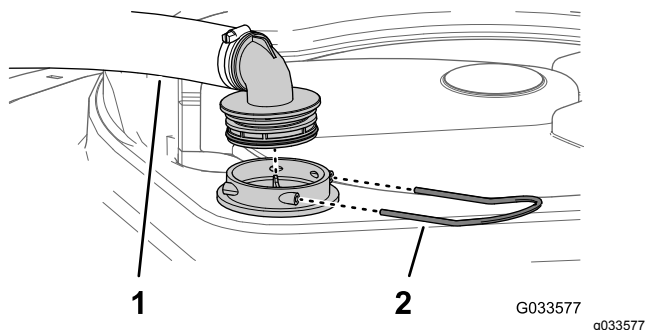

Figure 95
2. At the top of the sprayer tank, remove the retainer that secures the hose fitting attached to the large hose from the filter housing (Figure 95).
3. Remove the hose and hose fitting from the filter housing (Figure 95).